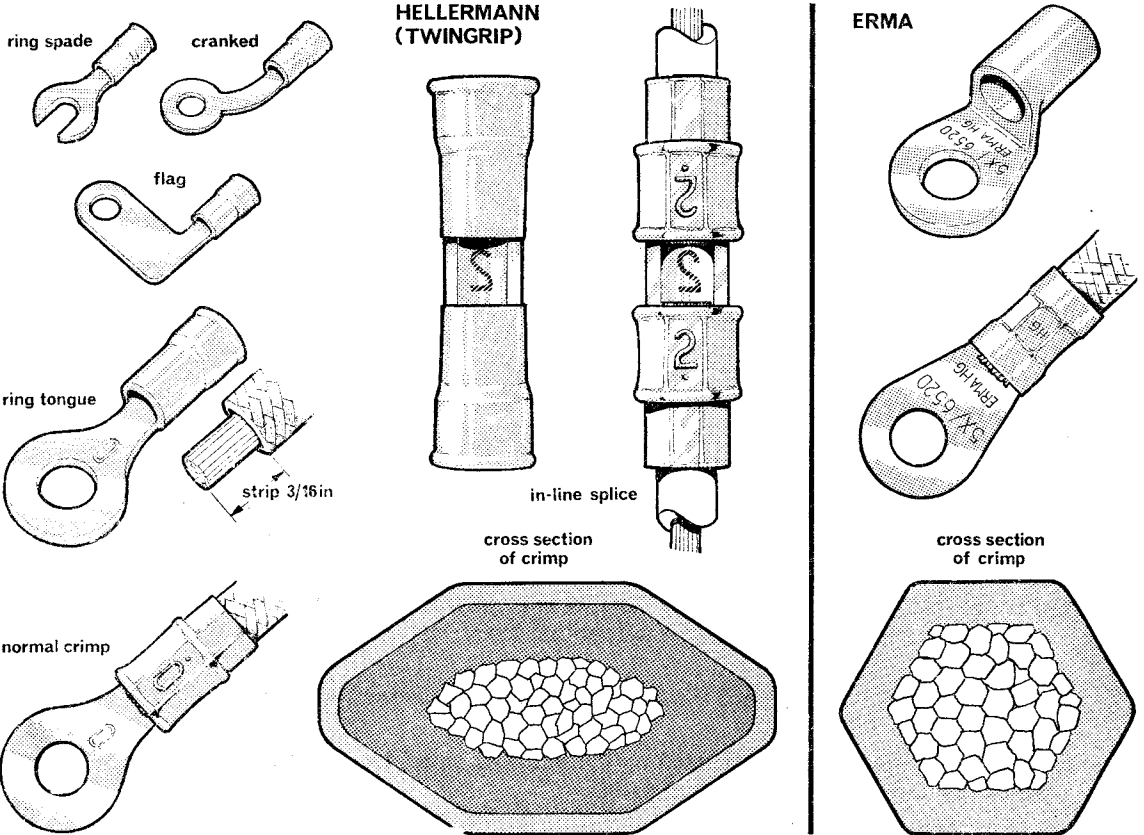

Fig. 13 Crimped terminations
17. Aircraft interconnections use solderless lugs mechanically crimped to the cable by special tools. These joints require less operator skill than soldering and have a lower failure rate. An efficient crimp produces a continuous mass of metal from the lug and conductor (Fig. 13).